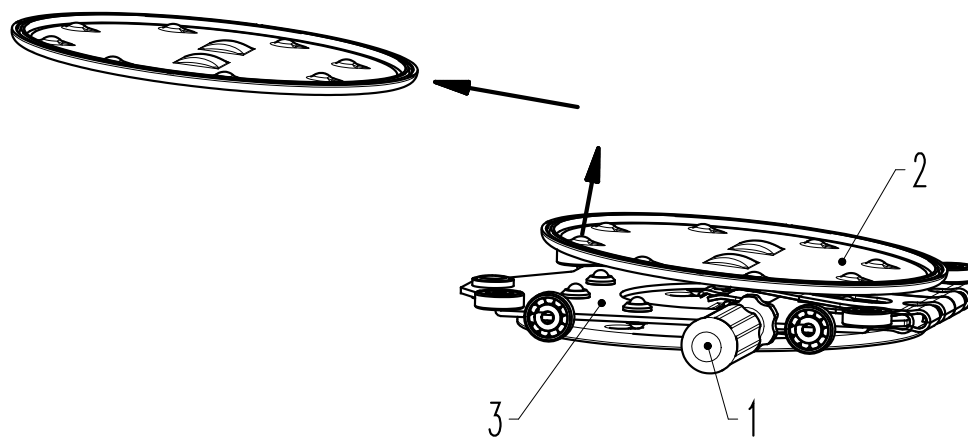
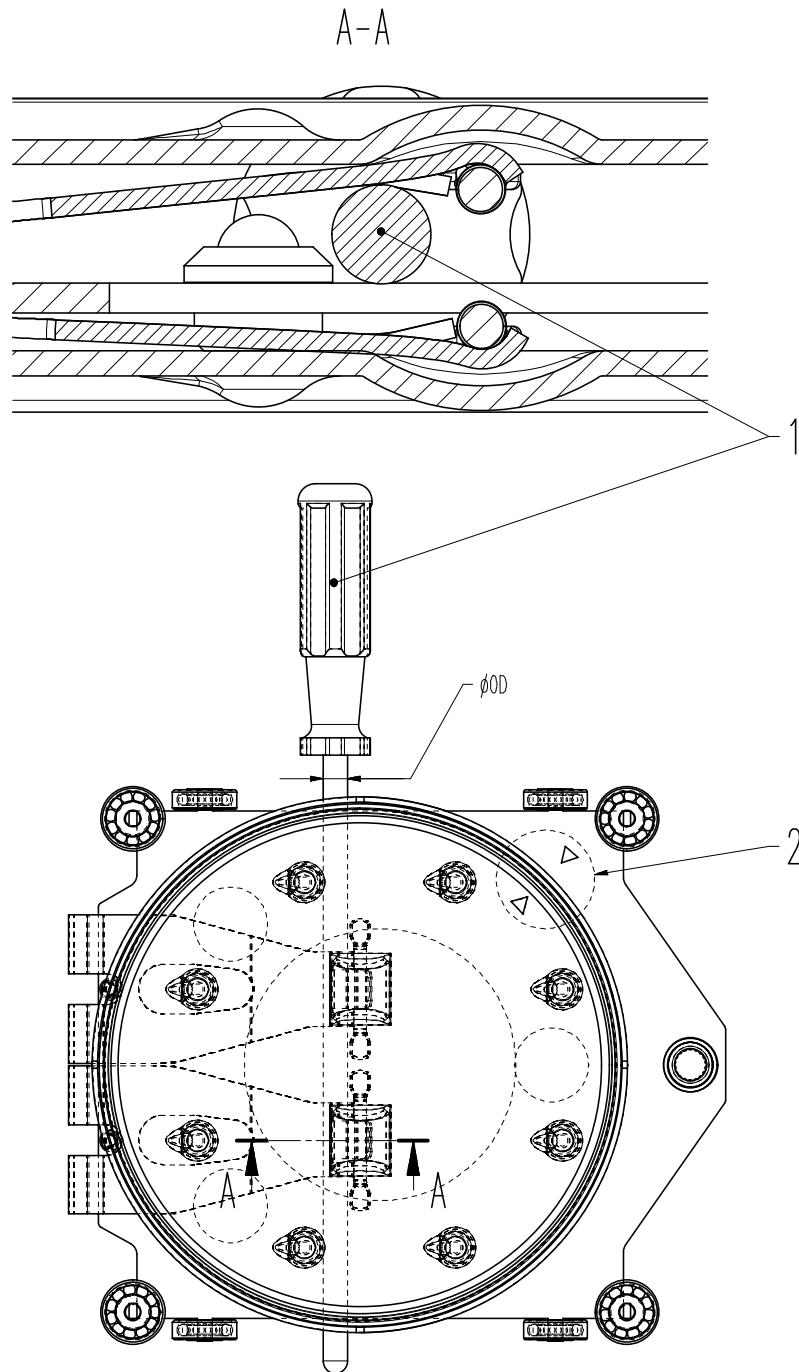

Figure 6-4
Figure 6-5
For dismounting and mounting the valve gate always use tool (1) according to «Figure 6-4». The tool may be ordered from VAT.
10. Lift valve gate (2) by hand and insert tool (1) between valve gate (2) and ball guidance (3); see «Figure 6-4» and «Figure 6-5» on page 20.
11. Remove valve gate in direction of the arrow; see «Figure 6-4» on page 19.
The markings Δ and ∇ (2) according to «Figure 6-5» on page 20 on ball guidance and valve gate must face each other.
13. Withdraw tool according to «Figure 6-4» on page 19.